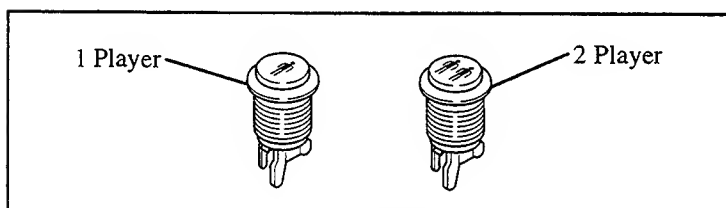

FIGURE 3
16. Notice that there are two white buttons. (See Figure 3.) Install the **PLAYER ONE** button on the top left-hand side of the control panel, and the **PLAYER TWO** button on the top right-side of the control panel. The **WHITE** buttons are **START** buttons.